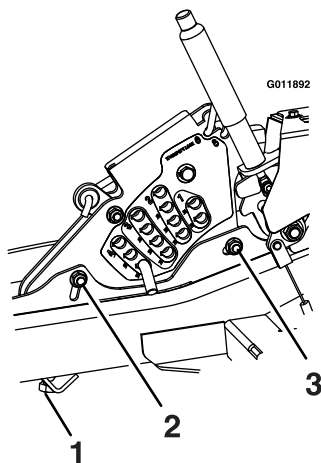

Figure 30
14. If the four deck links do not have enough adjustment to achieve accurate cut height with the desired rake, the single point adjustment can be utilized to gain more adjustment (see Figure 30).